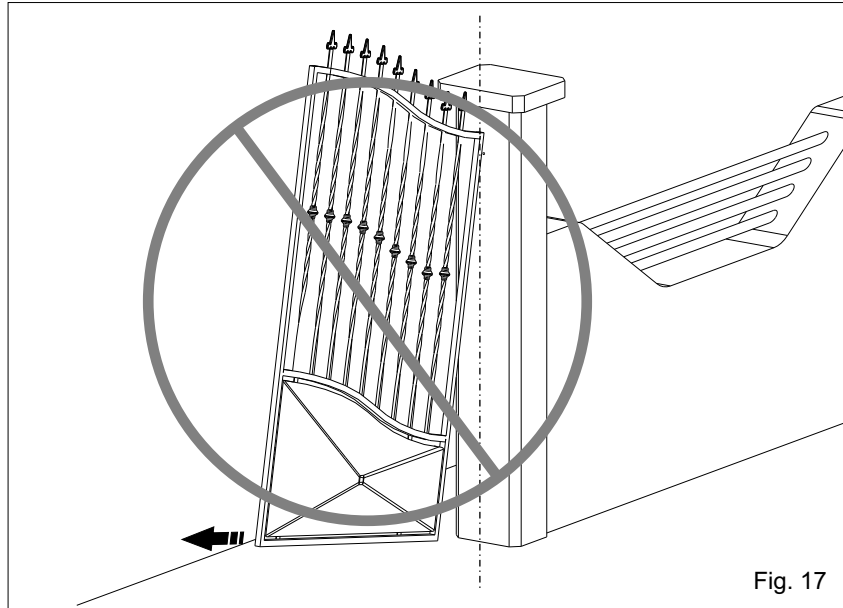
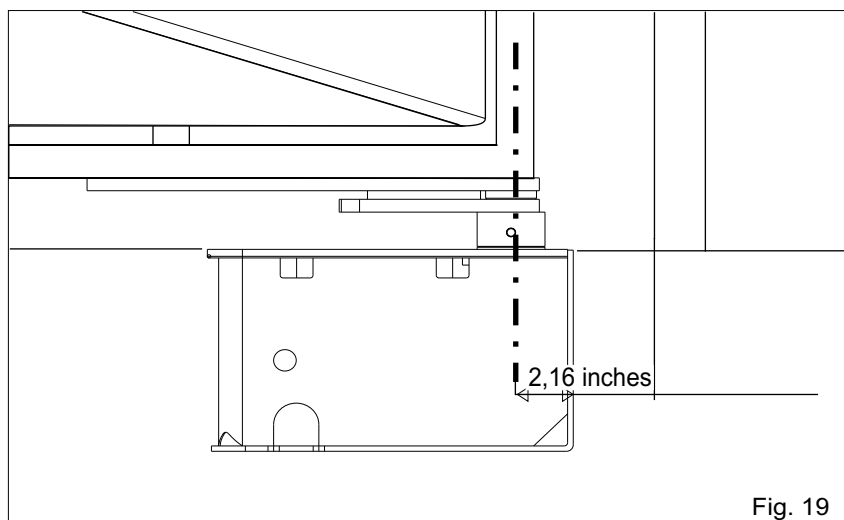

Fig. 17
Fig. 19
4.3. Be careful not to place the leaf outside the axis (Fig. 17 and 18), but make sure the shaft corresponds to the hinge rotation axis remembering that the minimum distance from the pillar is 2,16 inches (Fig. 19).